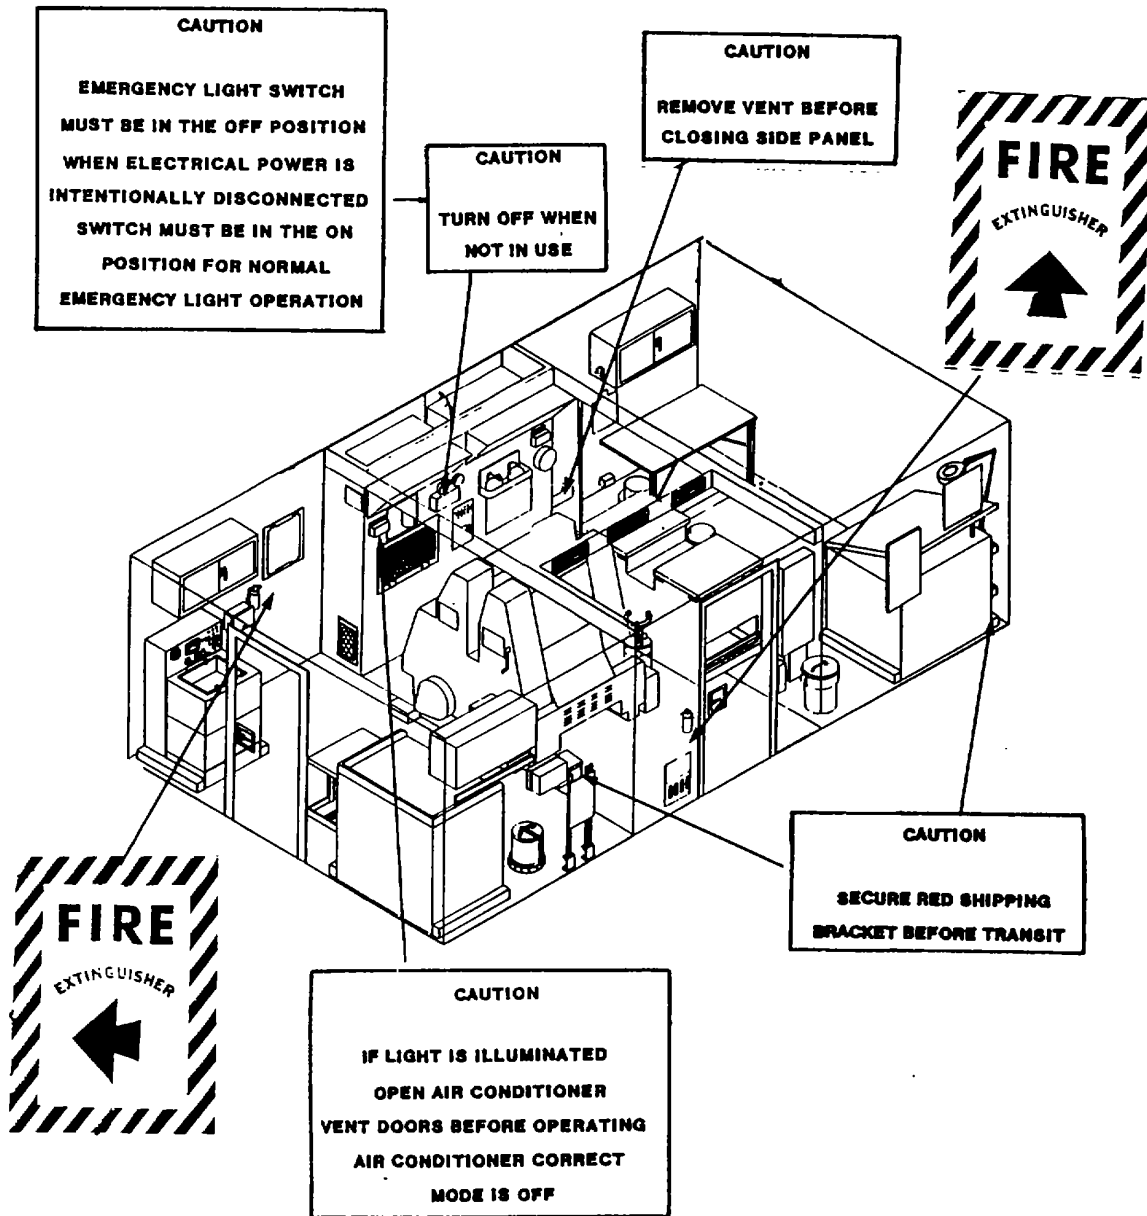

Figure 2-25. Shelter Decal Locations
f. Shelter. Figure 2-25 below identifies decals added to the shelter.